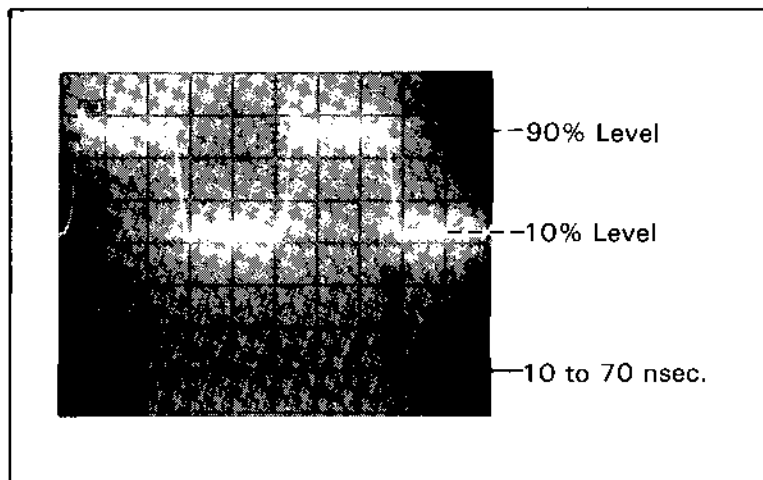

Figure 5-9. Display Processor Clock Output
- z. Verify that the rise and fall time of the waveform is between 10 and 70 nsec between the 10% and 90% points (see Figure 5-9).